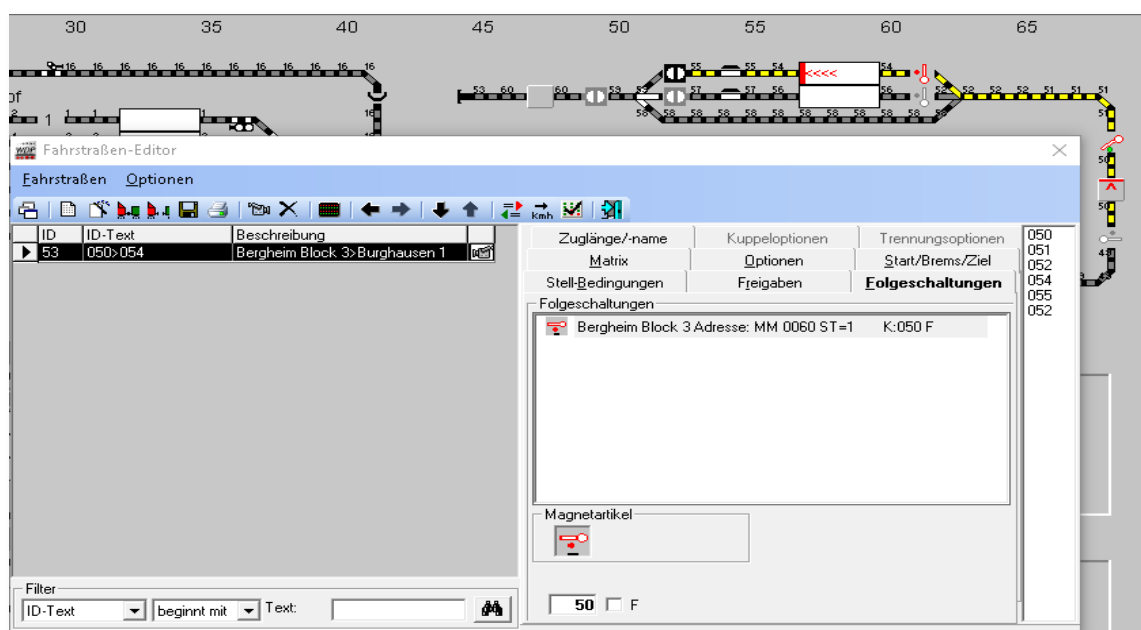

Fig. 6.97 A solenoid device to be activated by an add-on switching was defined in the route editor.
The window appearing with the index card “Add-on Switchings” offers a selection of actions when clicking with the right mouse button into the window (see Fig. 6.97).
As you can see in Fig. 6.97, it is your choice if you want to execute the add-on switching when a contact gets "OCCUPIED (B)" or "FREE" again.